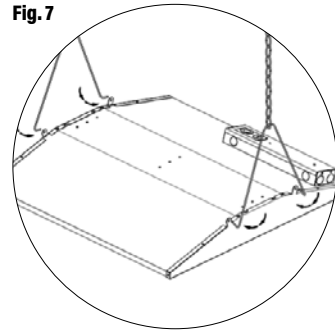

Fig. 8
4. Secure chain to the ceiling plates with a carabiner (Fig. 8)